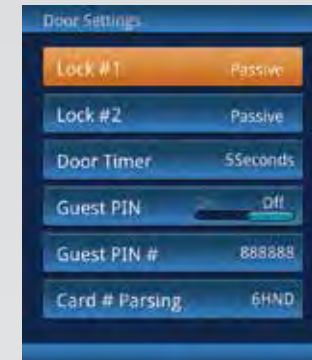

Fig 5.03-1
- c) From the Access Control menu, use the **▲** or **▼** keys to highlight the Door Settings menu option. Touch **OK** to enter the Door Settings menu shown in **Fig 5.03-1**.
- From the Access Control menu, use the **▲** or **▼** keys to highlight the Door Settings menu option. Touch **OK** to enter the Door Settings menu. (*Fig 5.03-1, pg 31*)